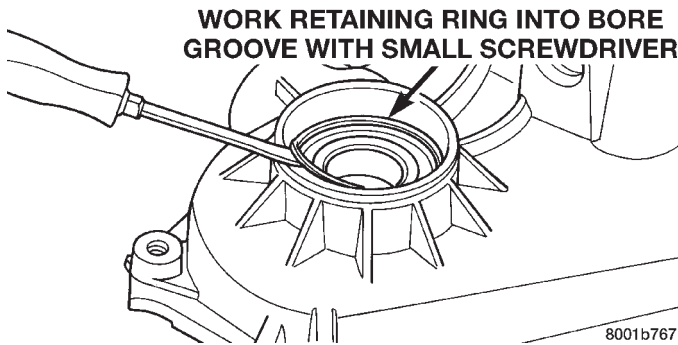

Fig. 44 Installing Output Shaft Front Bearing Retaining Ring
(5) Install output shaft front bearing retaining ring (Fig. 44). Start ring into place by hand. Then use small screwdriver to work ring into case groove. Be sure ring is fully seated before proceeding.
(6) Install new front output seal in front case with Installer Tool 8143 as follows: